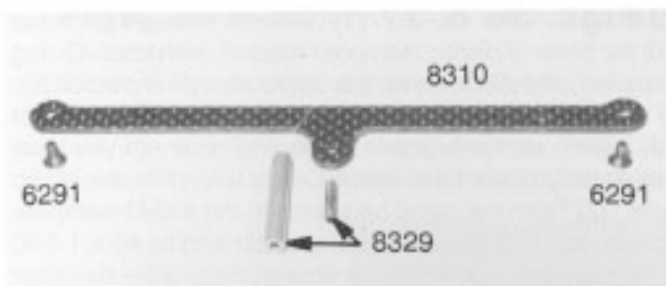

Fig. 28
□ Figs. 28 & 29 In the Rear Brace bag you will find the #8310 graphite rear chassis brace, two #6291 4-40 x 1/4" FHSScrews, the #8329 upper dampner post, and the #8329 4-40 x 1/2" set screw (fig. 28). **(1)** Thread the set screw into the #8328 lower dampner standoff until only half of the threads are showing. **(2)** Now place the graphite rear chassis brace over the set screw that is in the lower dampner standoff. Make sure that the countersunk side is up. **(3)** Take the two 4-40 x 1/4" FHSScrews and thread them into the rear chassis standoffs. **(4)** Now thread the #8329 upper dampner post onto the 4-40 set screw. Only one end of the upper dampner post is threaded, so make sure you install the correct end.